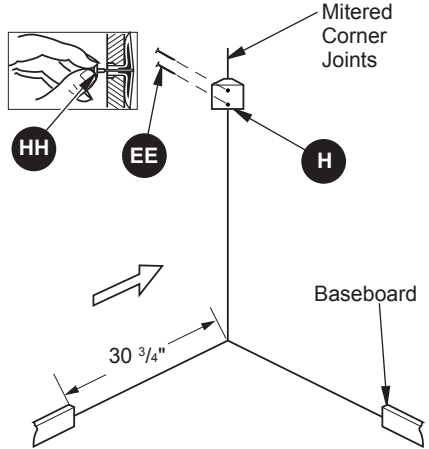

Figure 41
14. Install the Set Square Support (H) to the holes drilled in step 13, with 2) ST5 Screws 2 3/8" (EE) as shown in Figure 41. This block is used to support the Top Triangle Panel (F). For thin walls, insert white key (HH) into wall anchor and push to "pop" open anchor wings.